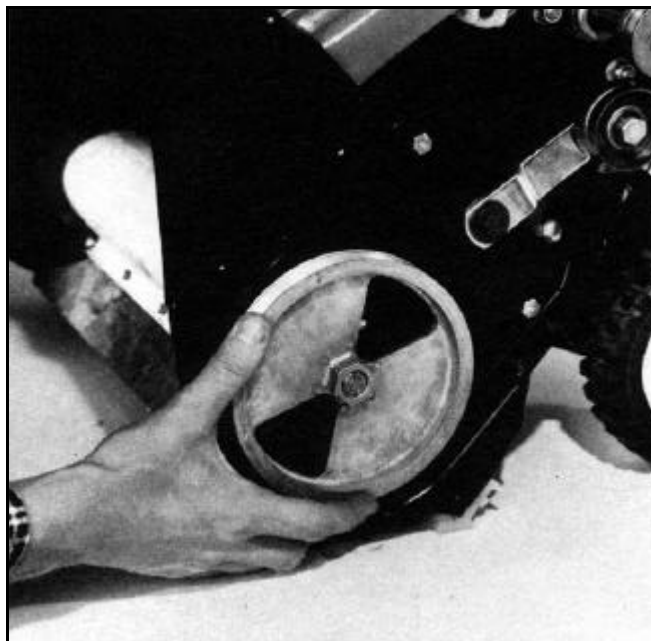

Figure 72
4. Next, turn the rotor pulley onto the shaft (counterclockwise) finger tight (Figure 72). The rotation of the pulley during operation will tighten the pulley to the proper torque.
8. Replace rotor pulley. Be certain to replace both the spacer and washer, before turning the rotor pulley onto the shaft (counterclockwise). Tighten the rotor pulley finger tight (Figure 72). The rotation of the pulley during the operation of the unit will tighten the pulley to the proper torque.